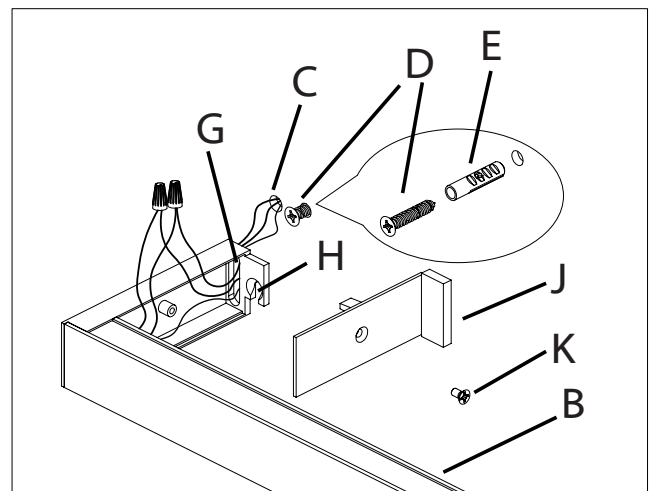
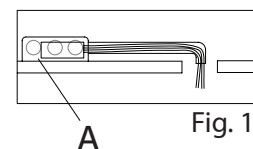

Fig. 2
Fig. 1
2. The LED driver (A) must be installed in a remote and accessible location near the fixture in accordance with local electrical code (Fig. 1).
- c. Connect the LED driver's positive (+) output wire (red) to the necessary length of red wire (not included) to reach the fixture (B) location.
3. Using the fixture (B) as a template, drill a small 1/4" hole (C) in the wall behind the fixture at one end, and pull the low voltage wires through the wall. Repeat for the second LED driver (A) at the other end. (Fig. 2)
4. Using the fixture (B) as a template, install mounting screws (D) with anchors (E). Do not tighten screws completely.
**OPTIONAL:** Install center bracket (F) with mounting screw (D) and anchor (E), in line with the end mounting screws, and centered on the fixture. (Fig. 2, 3)
5. Pull the LED Drivers' (A) positive (+) and negative (-) wires and route through the wire slots (G) on both ends of the fixture (B).
6. Hang fixture (B) on the hooks (H) and the lower bracket (F), secure fixture by tightening mounting screws (D). (Fig. 2)
- c. Carefully place the connections in the fixture's (B) end.
8. Slide in the covers (J) and secure with cover screws (K). (Fig. 2)